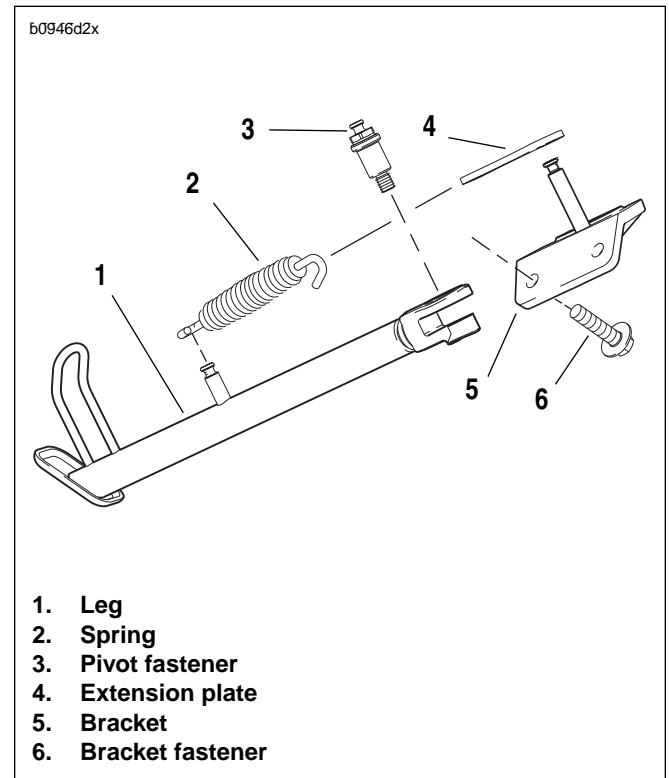

Figure 2-131. Sidestand Assembly
2. See Figure 2-131. Remove sidestand leg.
- a. Retract sidestand leg (1).
- b. Remove sidestand spring (2) and spring extension plate (5) using SNAP-ON SPRING TOOL (Part No. HE-52B).
- c. Remove sidestand pivot bolt (3).
1. See Figure 2-131. Install sidestand leg (1).
- c. See Figure 2-131. Install sidestand leg (1) and apply LOCTITE 272 (red) to sidestand pivot bolt (3) tightening to 18-20 ft-lbs (24-27 Nm).
- e. Install spring extension plate (4) and sidestand spring (2) using SNAP-ON SPRING TOOL (Part No. HE-52B).